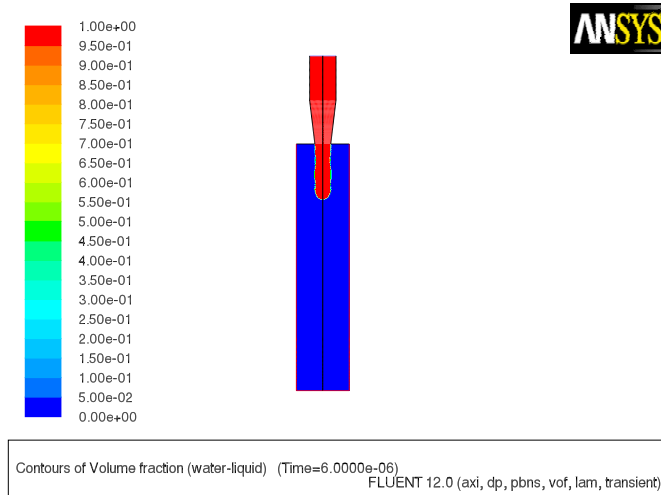

Figure 18.5: Contours of Water Volume Fraction After 6 μs
2. Display filled contours of water volume fraction after 6 microseconds (Figure 18.5).